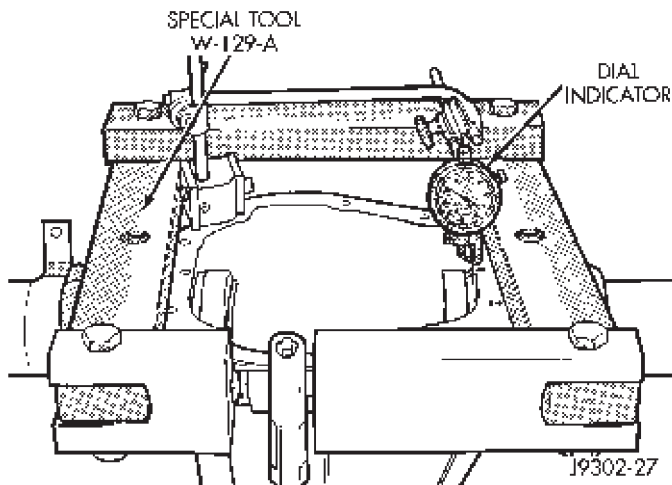

Fig. 37 Spread Differential Housing
(1) Position Spreader W-129-A with the tool dowel pins seated in the locating holes (Fig. 37). Install the holddown clamps and tighten the tool turnbuckle finger-tight.
(2) Install a pilot stud at the left side of the differential housing. Attach Dial Indicator to housing pilot stud. Load the indicator plunger against the opposite side of the housing (Fig. 37) and zero the indicator.
(3) Separate the housing enough to install the case in the housing. Measure the distance with the dial indicator (Fig. 37).